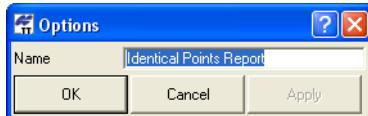

Figure 7-17. Item Options – Identical Points Report
- Identical Points Report – edit the name and click **OK** (Figure 7-17).